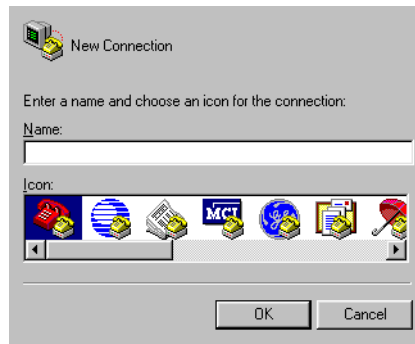

Figure 5-15 Connection Description Dialog Box
- e. At the *Windows Workstation* menu, sequentially select *Programs*, *Accessories*, *Hyperterminal*, and *HyperTerminal*. The *Connection Description* dialog box displays (Figure 5-15).